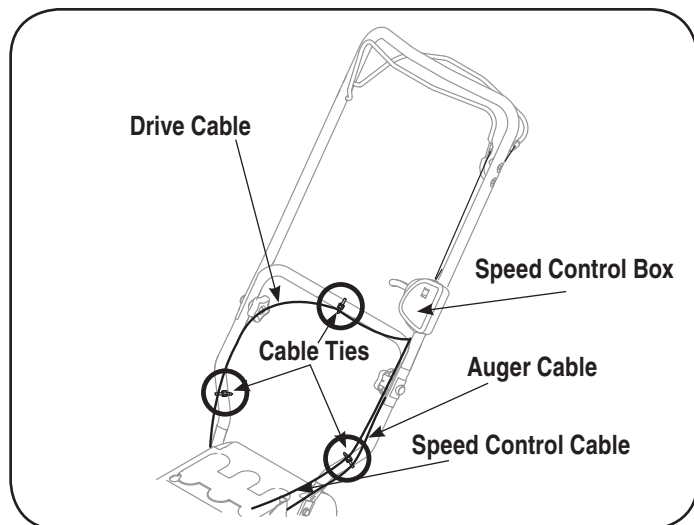

Figure 4
NOTE: The auger cable and speed control cable route down the left lower handle from the speed control box. The drive cable is routed across the top of the lower handle and down the right side of the lower handle. See Figure 4.
7. Three cable ties have been used to loosely tie the control cables to the lower handle, including the cable tie you relocated in step 3. Position cable ties now, as in Figure 4, and tighten to secure cables to the lower handle. Trim off excess material of cable ties.